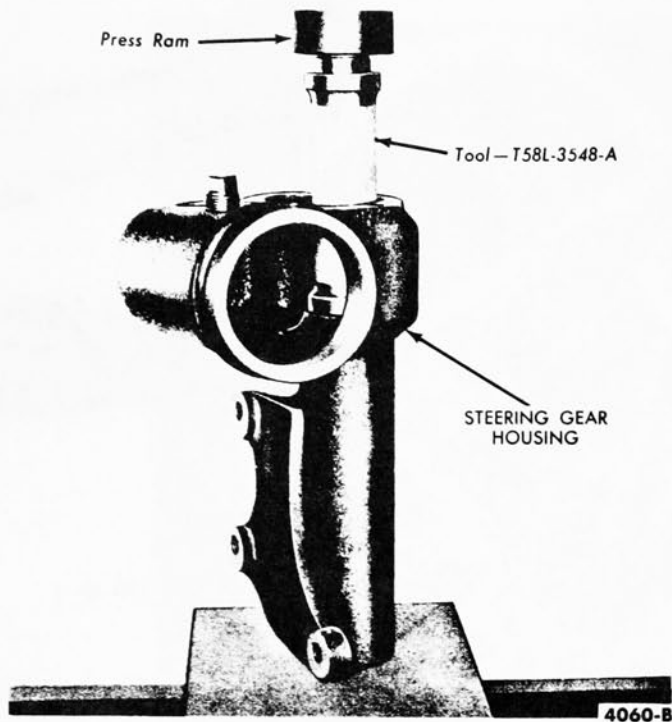

FIG. 8—Sector Shaft Bushing Installation
1. Press new sector shaft bushings into the housing (Fig. 8).